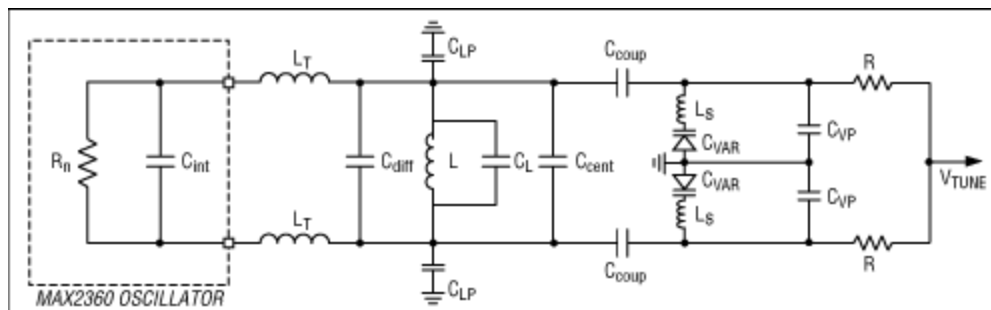

Figure 4. Detailed VCO model.
**Figure 4** depicts the detailed VCO model. It takes into account the capacitance of the pads but does not include the effects of series inductance for simplicity.  $C_{stray}$  is defined as: